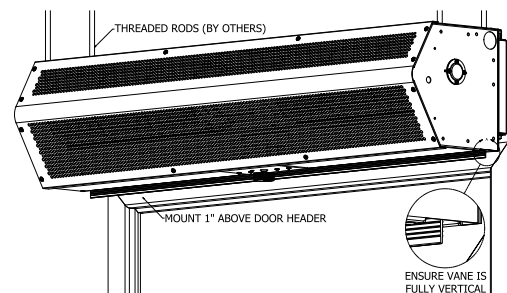

FIG. 4
6. Mount the product such that the discharge is 1" above the opening and all obstacles (FIG. 4).
7. Use six (6) bolts for wall installation, or alternatively, use four (4) threaded rods for overhead installation (FIG. 4). All hardware is field provided by others.